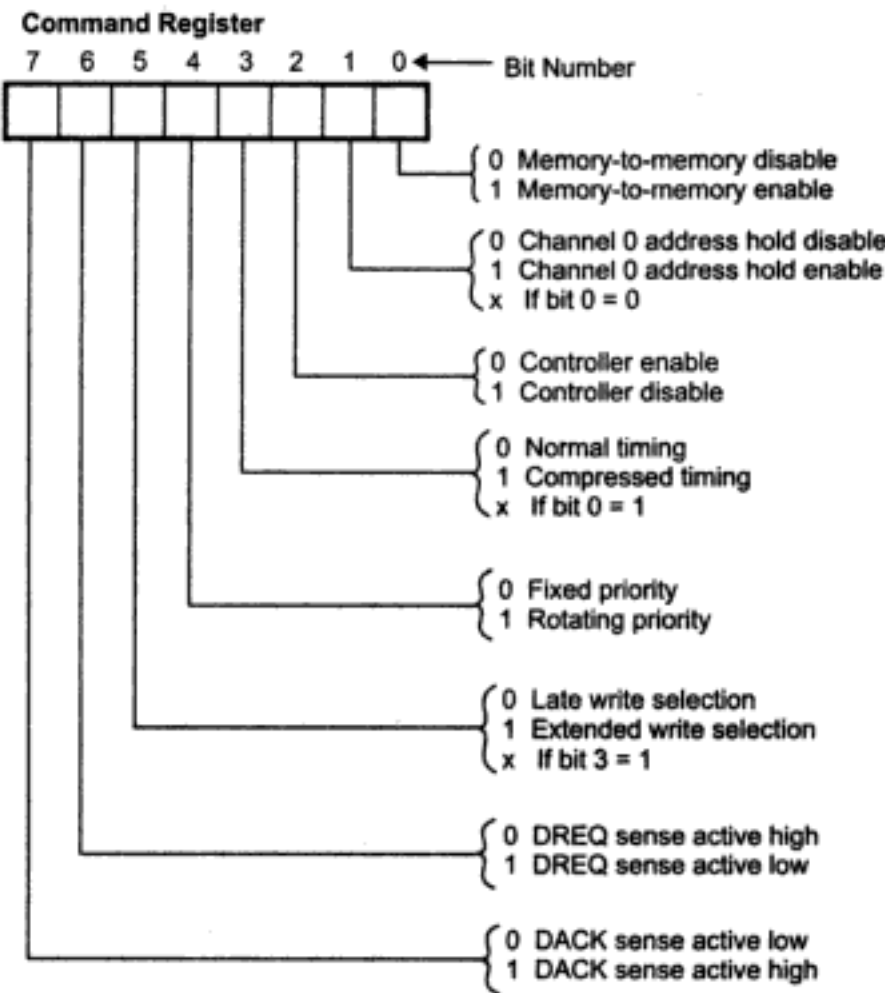

Fig. 6.18 Command register
5. Command Register : Fig. 6.18 shows the bit pattern of the command register. It is 8-bit register which controls the operation of 8237A.